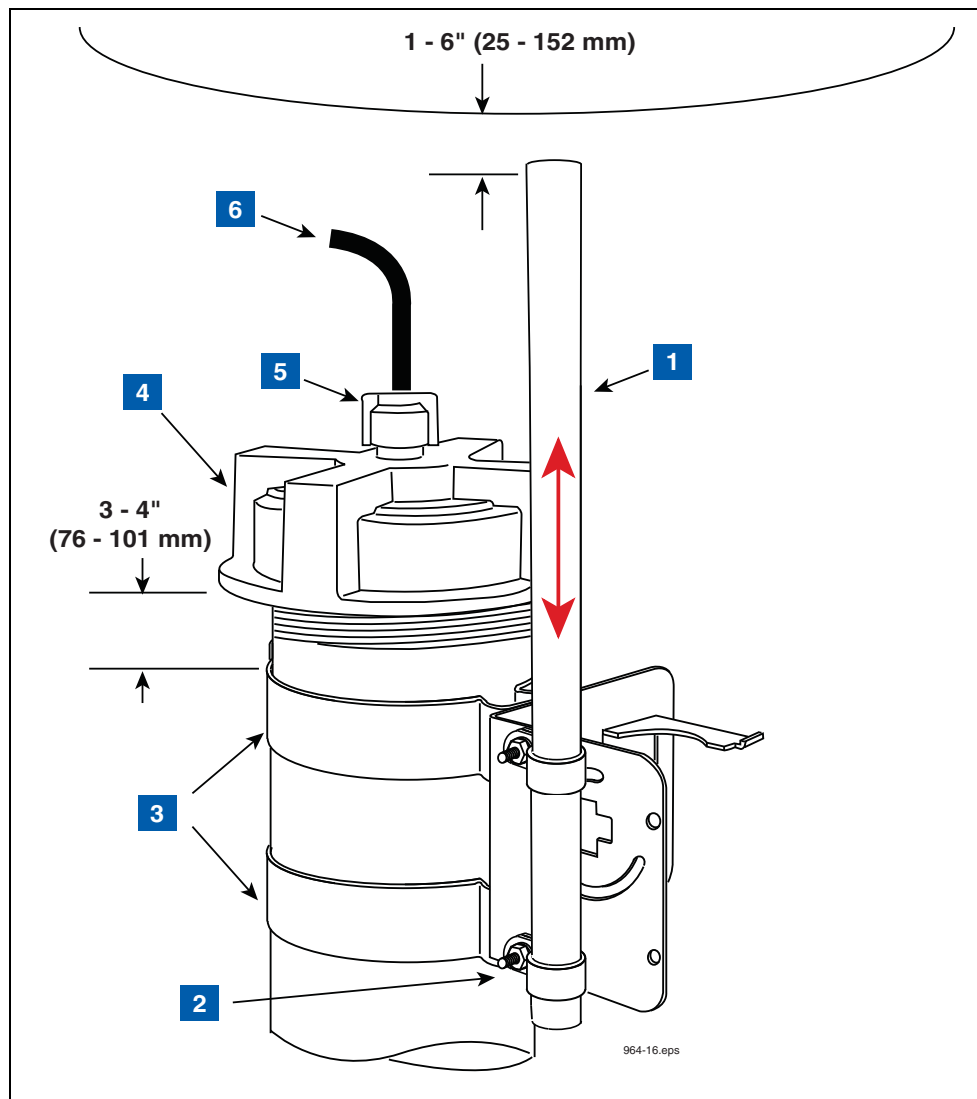

Figure 16. Installing Transmitter Support Conduit
4. Loosen the probe cable cord grip and remove the riser cap. Thread the probe cable through the two conduit hangers as you slide the hanger/bracket assembly onto the riser. Adjust the conduit hangers until the top one is 3 - 4 inches below the top of the riser as shown in Figure 16. Tighten the two conduit hanger bolts to secure the bracket on the riser. Loosen the cord grip in the top of the riser cap and push the probe cable up through the cord grip and replace the riser cap and tighten the probe cable cord grip. Insert a piece of 1/2-inch conduit or ducting into the loosened conduit clamps in the battery pack support bracket. The conduit can be positioned below the manhole cover from 1 to 6 inches, as required for best signal reception. Place a mark on the conduit above the top clamp. Remove the conduit to a non-hazardous location and cut off the excess length. Push the conduit down through the two clamps until the top clamp is below the mark on the conduit and tighten the two clamps.
LEGEND FOR NUMBERED BOXES IN Figure 16